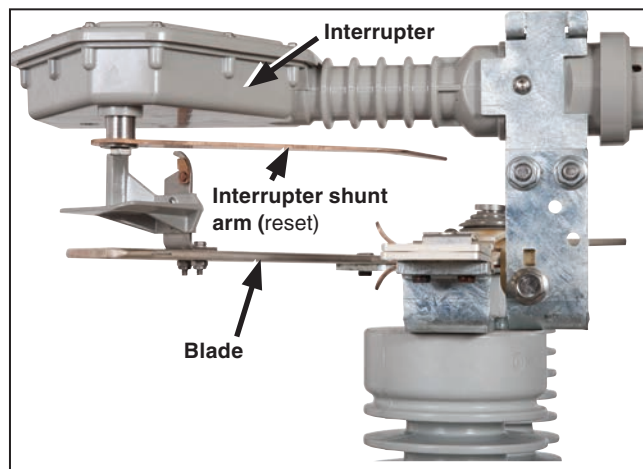

Figure 24. The interrupter and interrupter shunt arm is parallel to the sweep of the blade.
STEP 12. Open and close the switch and examine the interrupter and blade alignment. The interrupter and interrupter shunt arm must be parallel to the sweep of the blade on each phase. See Figure 24.
- (b) When the blade reaches its full travel the interrupter shunt arm will be released and will quickly snap back to the **Closed** position and reset for the next operation. See Figure 24.